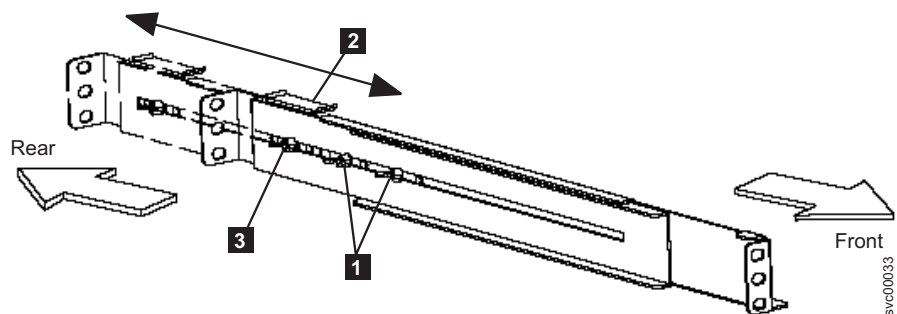

Figure 25. Adjusting the rail depth on the 2145-1U uninterruptible power supply
4. Loosen the assembly wing nuts (**1** in Figure 25) on both rail assemblies and adjust the rail size to the depth of your rack.
5. Position the rear, hold-down bracket (**2** in Figure 25 on page 43) towards the end of the rail assemblies and tighten the wing nut (**3** in Figure 25 on page 43).